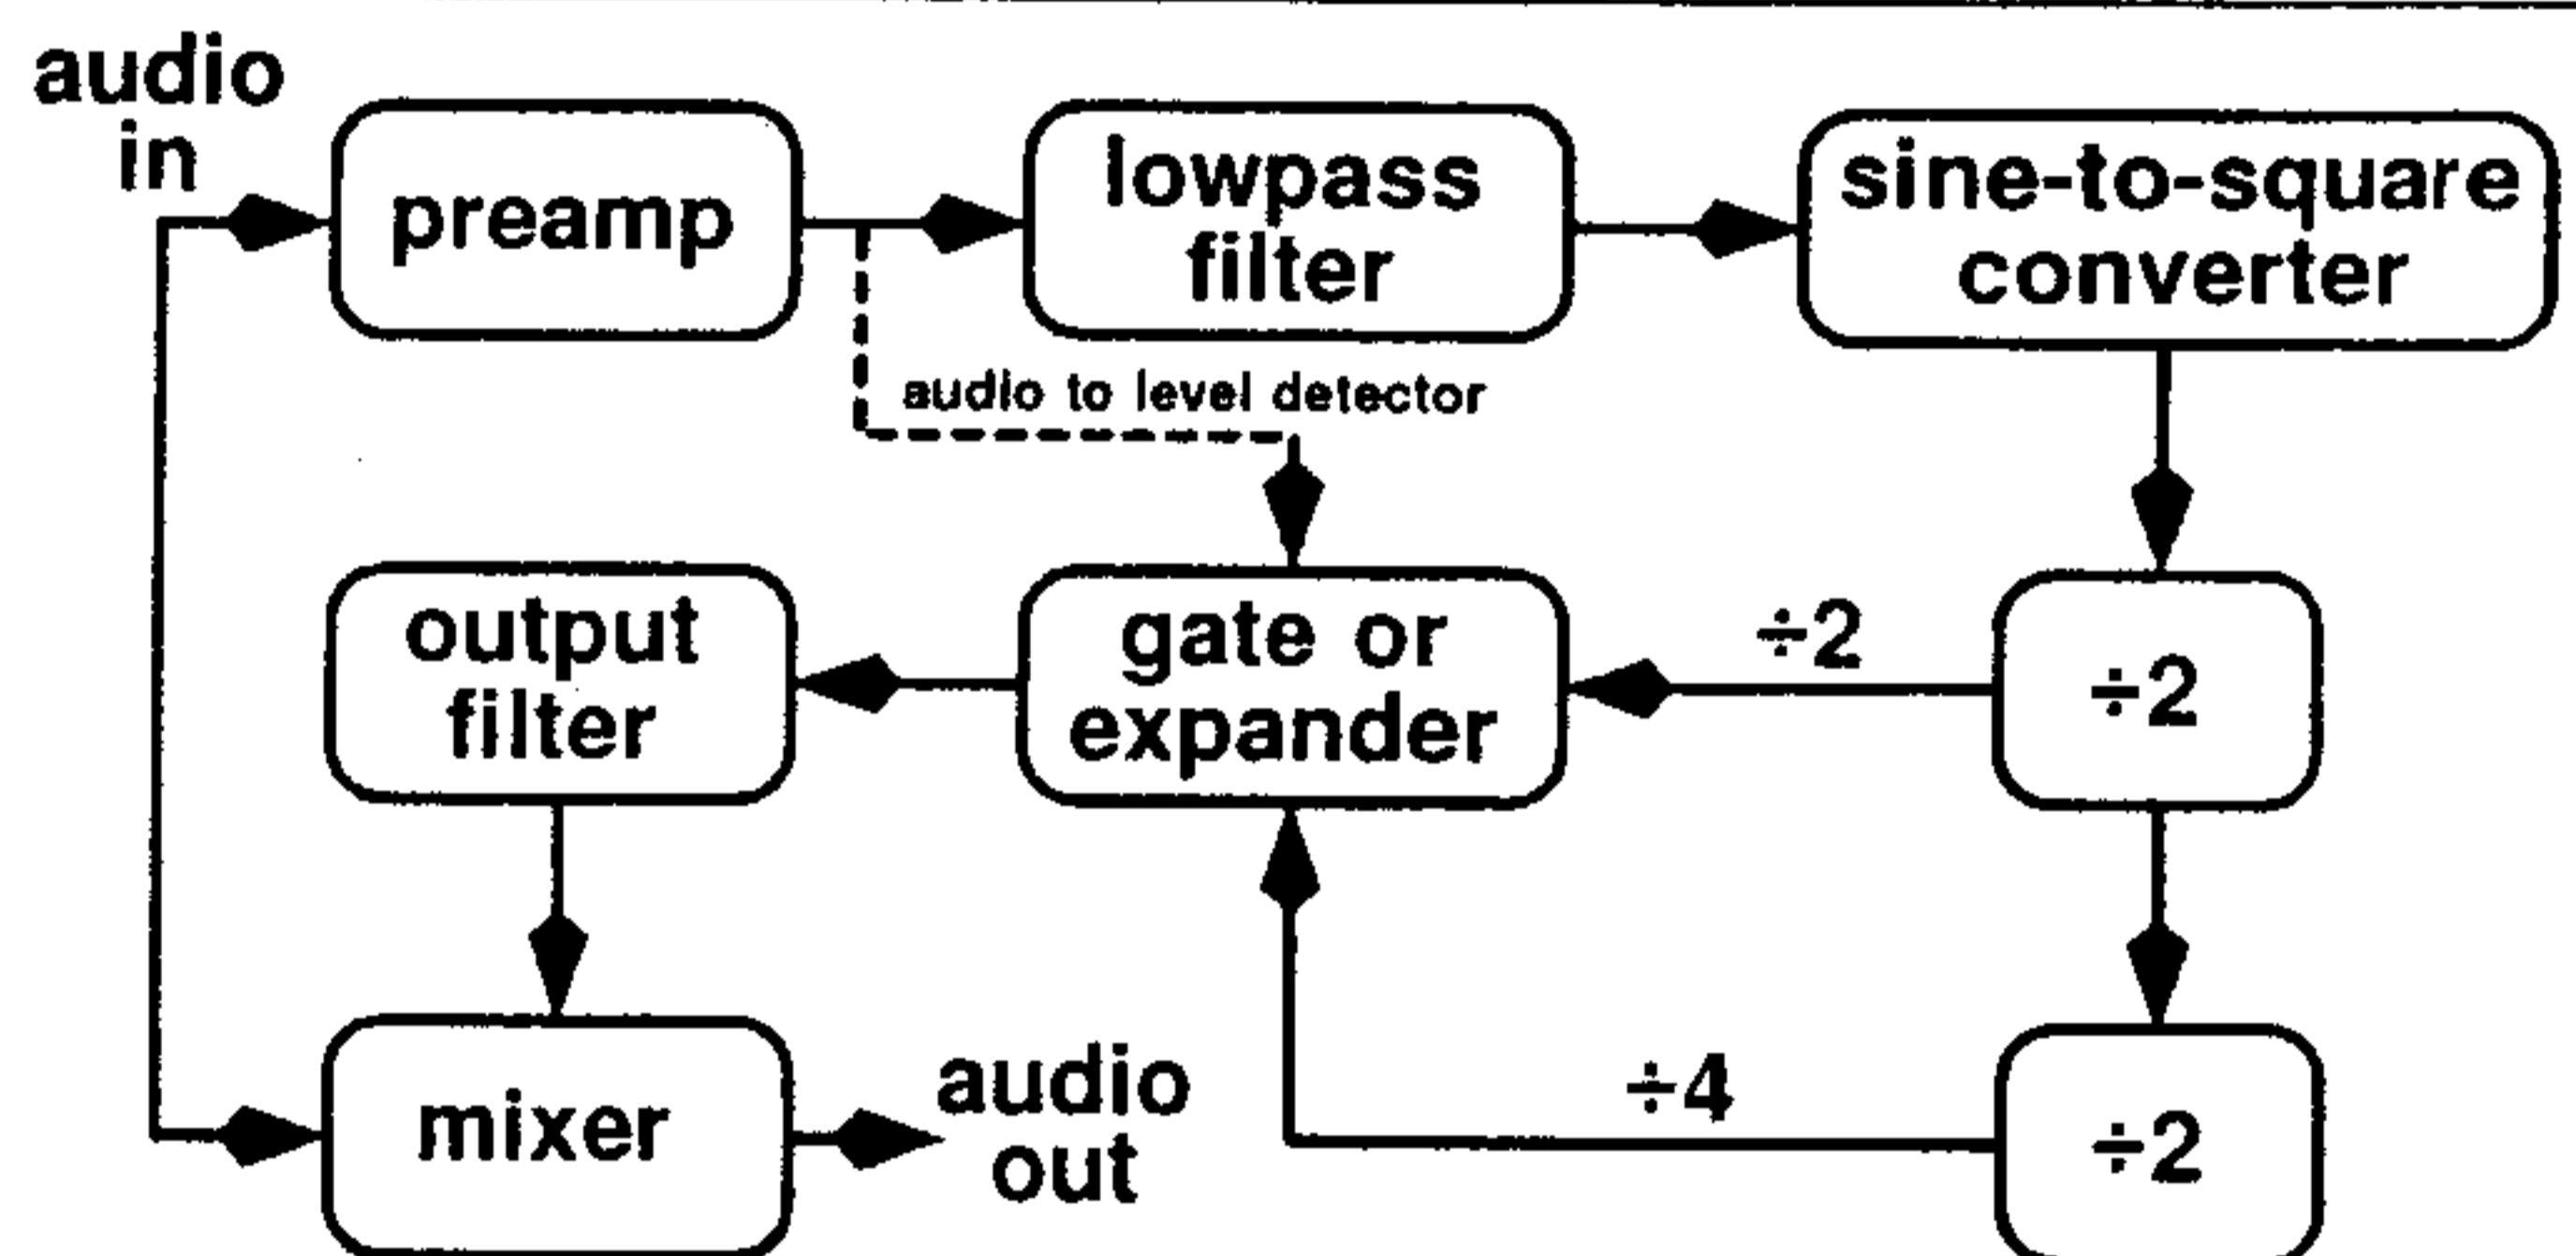

Fig. 6. Block diagram of basic direct-divider box for guitar. See text.
A. Refer to Fig. 6, a block diagram of the elements in a direct-divider box. The first step is to design an input filter that resists octave skipping.